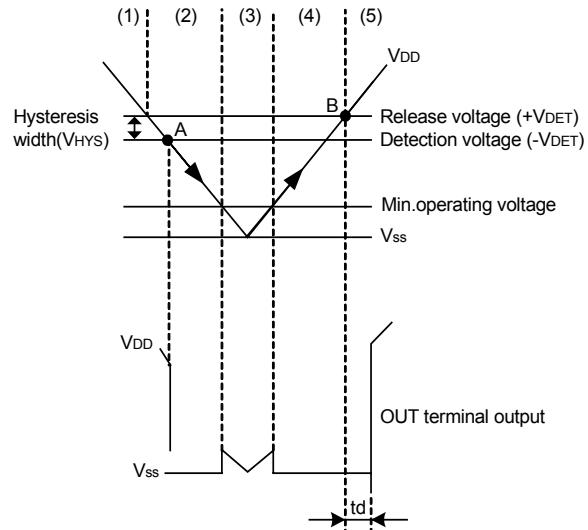

Figure 7
The hysteresis width is the voltage difference between the detection voltage and the release voltage ( $B-A=V_{HYS}$  in Figure 7). By giving a device hysteresis, trouble such as noise at the input is avoided.
- (1) When power supply voltage  $V_{DD}$  is greater than the release voltage  $+V_{DET}$ , the Nch transistor is OFF and the Pch transistor ON, causing  $V_{DD}$  (high) to appear at the output.
- (2) When power supply voltage  $V_{DD}$  goes below  $+V_{DET}$ , the output maintains the power supply voltage level, as long as  $V_{DD}$  remains above the detection voltage  $-V_{DET}$ . When  $V_{DD}$  does fall below  $-V_{DET}$  (A in Figure 7), the Nch transistor goes ON the Pch transistor goes OFF, and  $V_{SS}$  appears at the output.
- (3) When  $V_{DD}$  falls below the minimum operating voltage, the output becomes undefined. However, output will revert to  $V_{DD}$  if a pull-up has been employed.
- (4)  $V_{SS}$  will again be output when  $V_{DD}$  rises above the minimum operating voltage.  $V_{SS}$  will continue to be output even when  $V_{DD}$  surpasses  $-V_{DET}$ , as long as it does not exceed the release voltage  $+V_{DET}$ .
- (5) When  $V_{DD}$  rises above  $+V_{DET}$  (B in Figure 7), the Nch transistor goes OFF the Pch transistor goes ON, and  $V_{DD}$  appears at the output. Then  $V_{DD}$  at the OUT terminal appears with delay time ( $td$ ) due to delay circuit.
The delay circuit outputs the signal delayed from the release voltage ( $+V_{DET}$ ) point of the power voltage  $V_{DD}$  rising. The output signal is not delayed when the  $V_{DD}$  goes down the detection voltage ( $-V_{DET}$ ) or less. (See Figure 7).